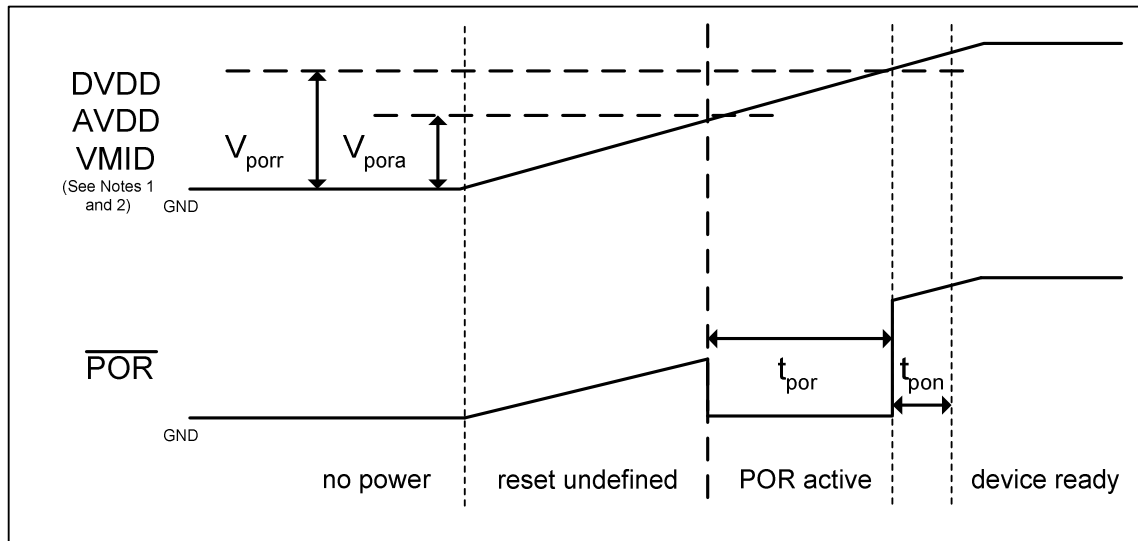

Figure 8 Power Supply Timing Requirements – Power-on
- POR is activated when DVDD or AVDD or VMID reach their stated V_{pora} level (Figure 8)
- POR is only released when DVDD and AVDD and VMID have all reached their stated V_{porr} levels (Figure 8).